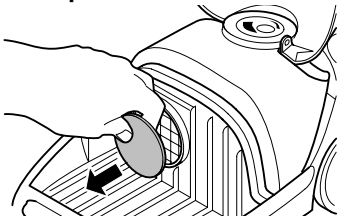

Fig.21
- **Blow-out filter:** on the back of the appliance (Fig. 21/2).
3. Pull out the protective motor filter (Fig. 21).